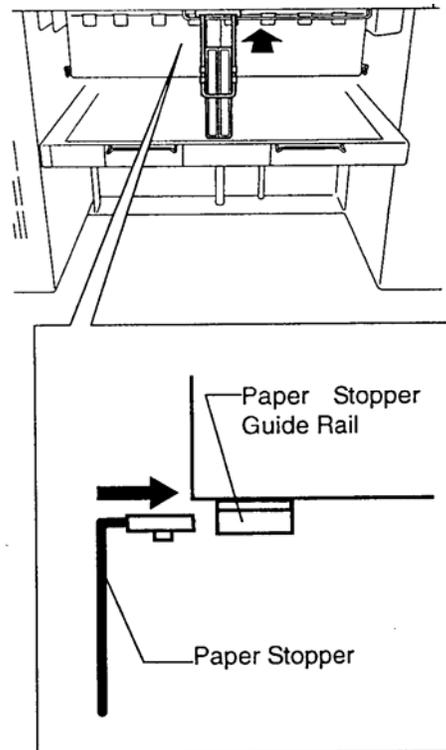

Figure 5-2
2. Install the Paper Stopper in the Paper Stopper Guide Rail as shown in Figure 5-2 and re-install the screw.